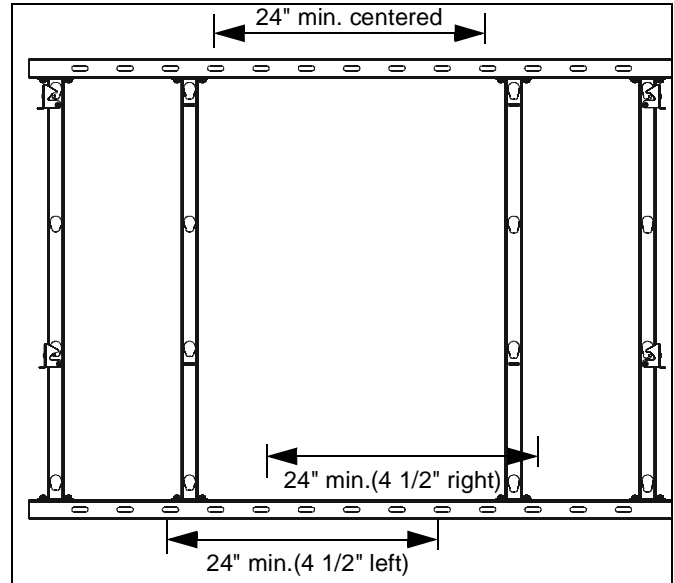

Figure 2
2. Determine mounting slots to be used for installation. (See Note below and Figure 2)
**NOTE:** Slots used must be at least 24" apart. Mount must be centered on anchors +/- 4 1/2". (See Figure 2)